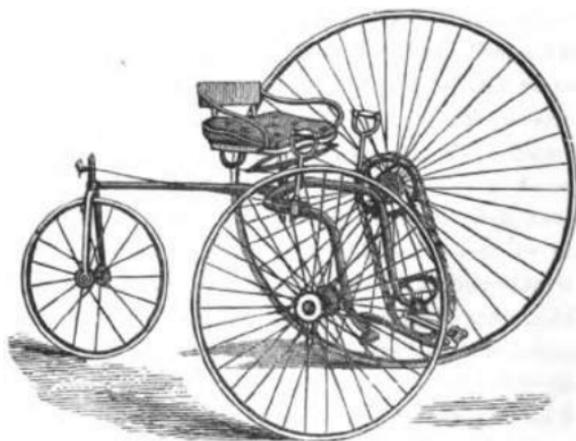

FIG. 3. THE FLYING DUTCHMAN.
5. *The Flying Dutchman* (Hillman, Herbert, and Cooper, Premier Works, Coventry).—Most readers will doubtless remember the Fifty Miles Tricycle Race which was held in September, 1879, and the remarkable feat performed by the winner, A. E. Derkinderin, who managed to cover the two score and ten miles of indifferent roads in less than five hours. The machine he rode was then quite new to the London market, and the name we then gave it has been retained, i.e., the *sobriquet* its rider obtained on the racing path. It may be considered the pioneer of what is at present the most popular form of tricycle. The three different sized wheels were then considered a novelty, but are now allowed to be a success. The illustration, Fig. 3, p. 65, explains the arrangement of the wheels. The respective sizes are 50in., 40in., and 18in.; they are the same as the bicycle wheels—direct action spokes, crescent rims, red rubbers, &c., or look-nutted spokes and iron hubs to meet the wishes of riders with old-fashioned ideas. Both front wheels work on independent axles, which are supported by bosses on the under side of the frame. The latter consists, as in other cases, of steel tubing, bent into a rather square form with the legs coming down in front. These support the wheels, as stated, and the cranked axle at the ends. It has rubber pedals, and the power is communicated by means of a cog and an endless chain passing over a similar one affixed to the driving wheel. Both being of equal diameter, there is neither gain nor loss of power. The machine may be run backwards, or in going down hill back pedalling may be resorted to. Should a further check on the speed be required, by pushing out the left handle the brake is brought into play; it is of the strap order, and acts round a drum on the axle of the largest wheel. This pushing is a decided improvement on pulling, which is the ordinary action, in order to obtain great leverage for the arms, with a view to putting extra force into the feet. In descending hills this is not wanted, and, therefore, when pushing with the left hand it does